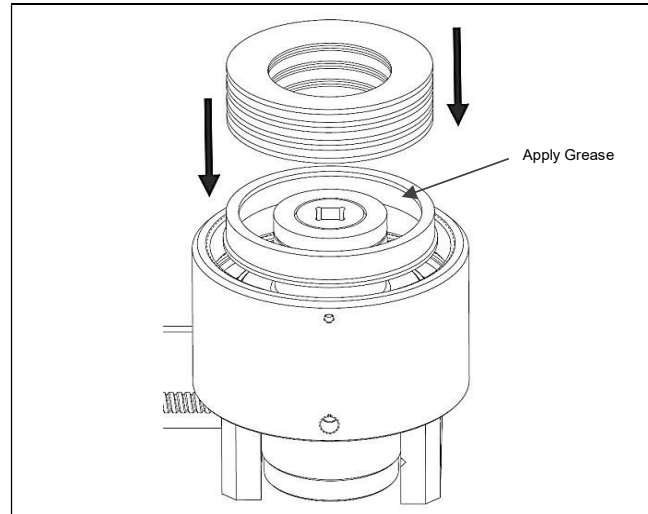

Fig. 4.6 Insert spring insert and disc springs, taking care they are stacked correctly
- Ensure that the disc spring stacking arrangement is maintained. (Fig. 4.6)